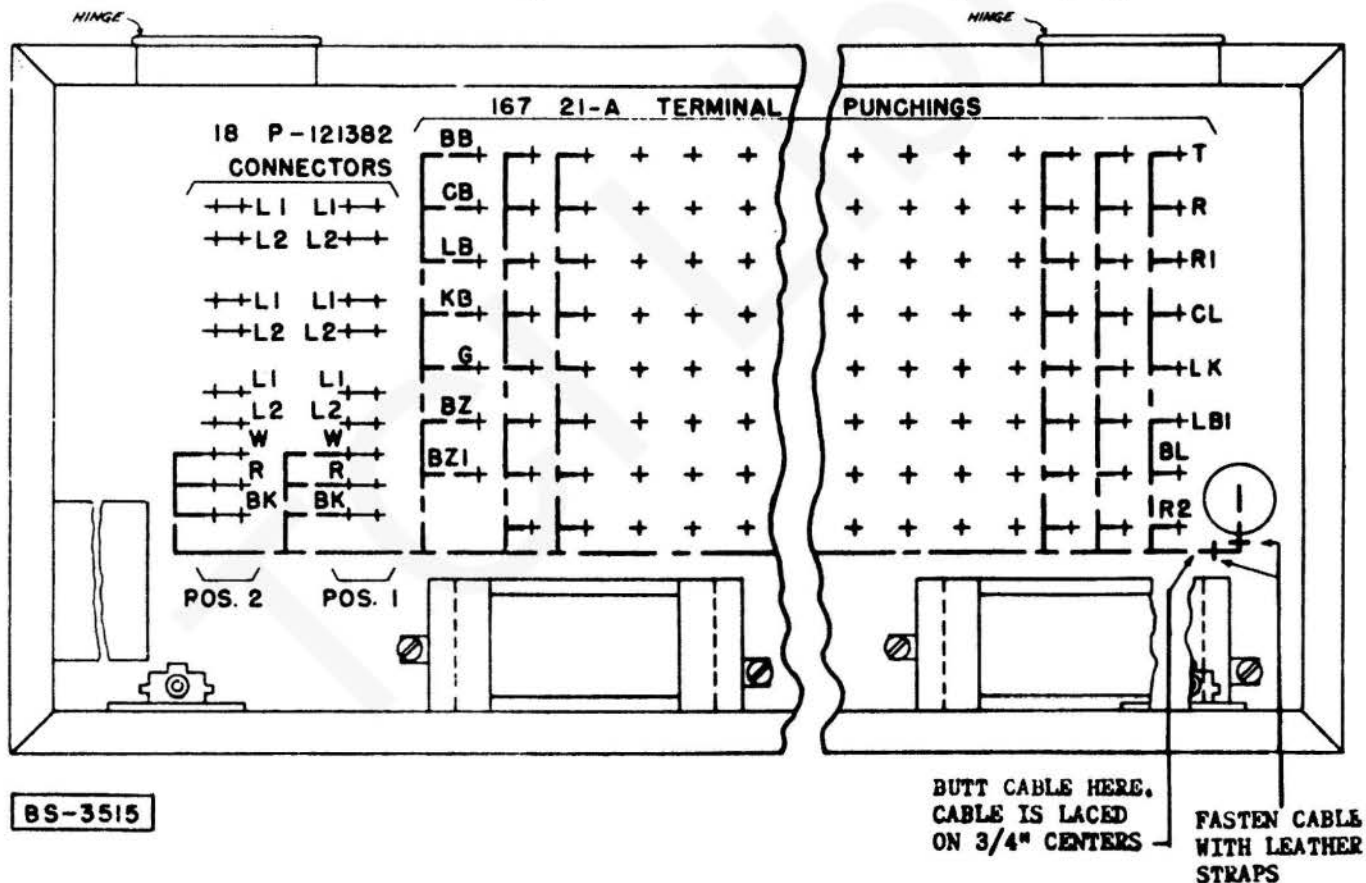

Figure 1 - Cabling at Key Cabinet
3.02 Wiring at the key cabinets shall be done as shown in Figure 1.